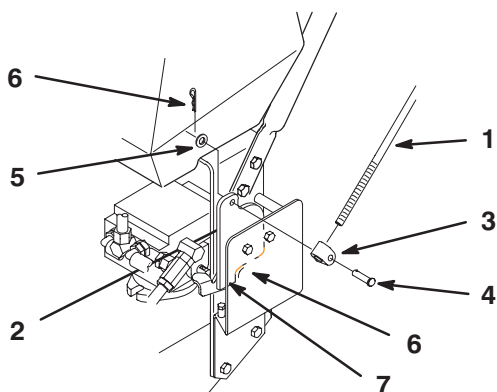

Figure 5
- Slide clevis pin through rod fitting and mounting hole in control bracket (from outside). Secure with washer and hairpin cotter (Fig. 5).
4. Push rod full forward until bearing is against control bracket stop. Thread rod in or out of fitting on control bracket until rod aligns with holes in upper control bars (Fig. 5).